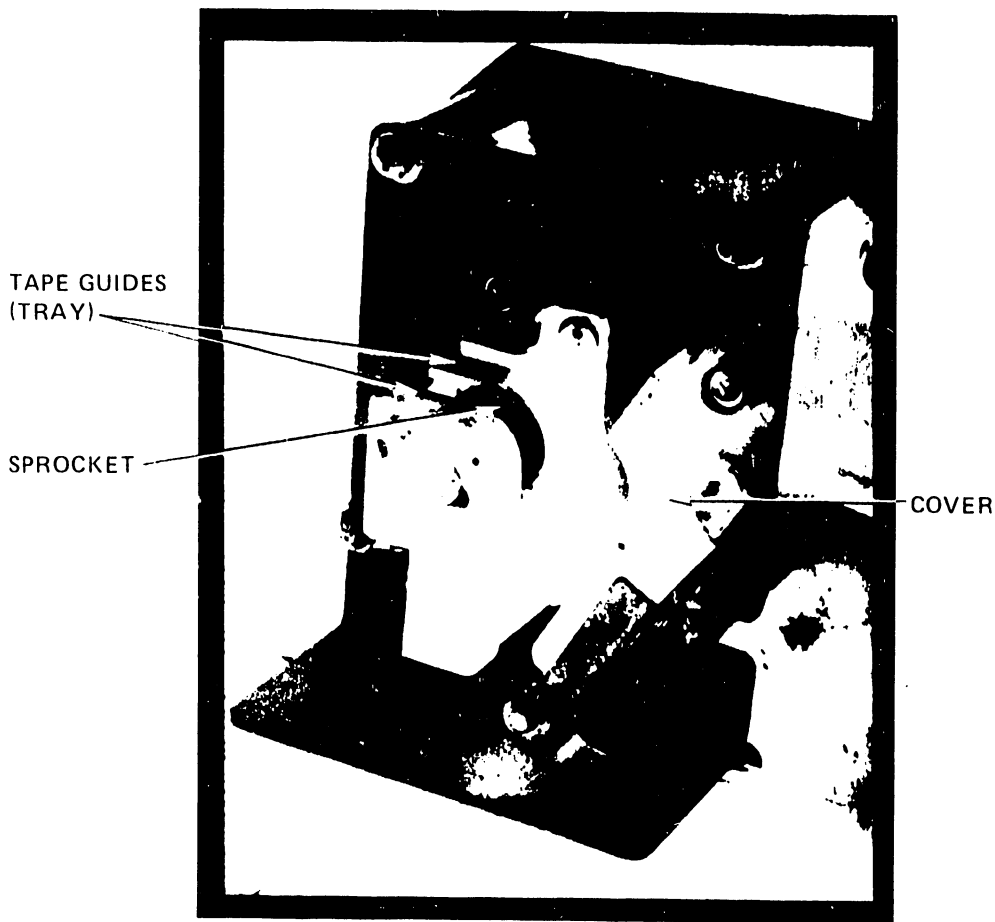

Figure 3-4. Tape Reader/Cover Open
2. Open the tape reader cover and install the format tape in the tray, ensuring that the sprocket teeth protrude through the tape. The channel 7 punched holes must be closest to the tape reader mounting plate, and the channel 2 punched holes must be farthest away. See Figure 3-4.